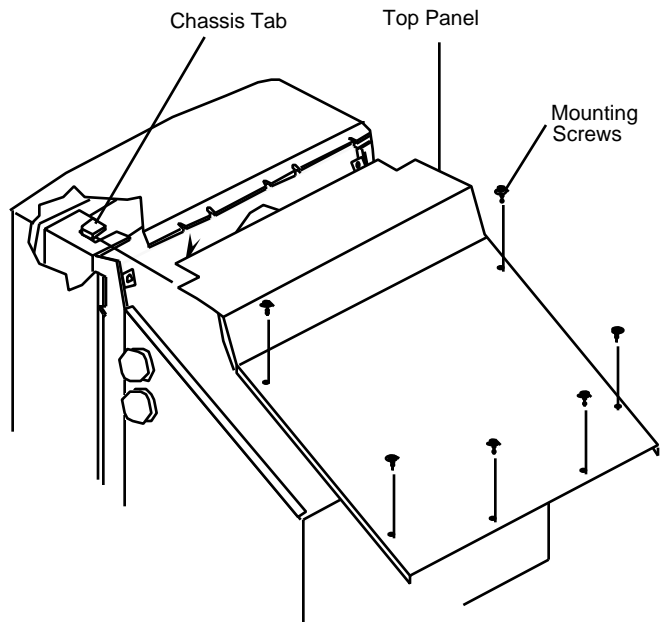

FIGURE 4
4. Push the notched end of the top panel under two chassis tabs as shown in **Figure 4**. Align the holes in the top panel and chassis, and install the six mounting screws.